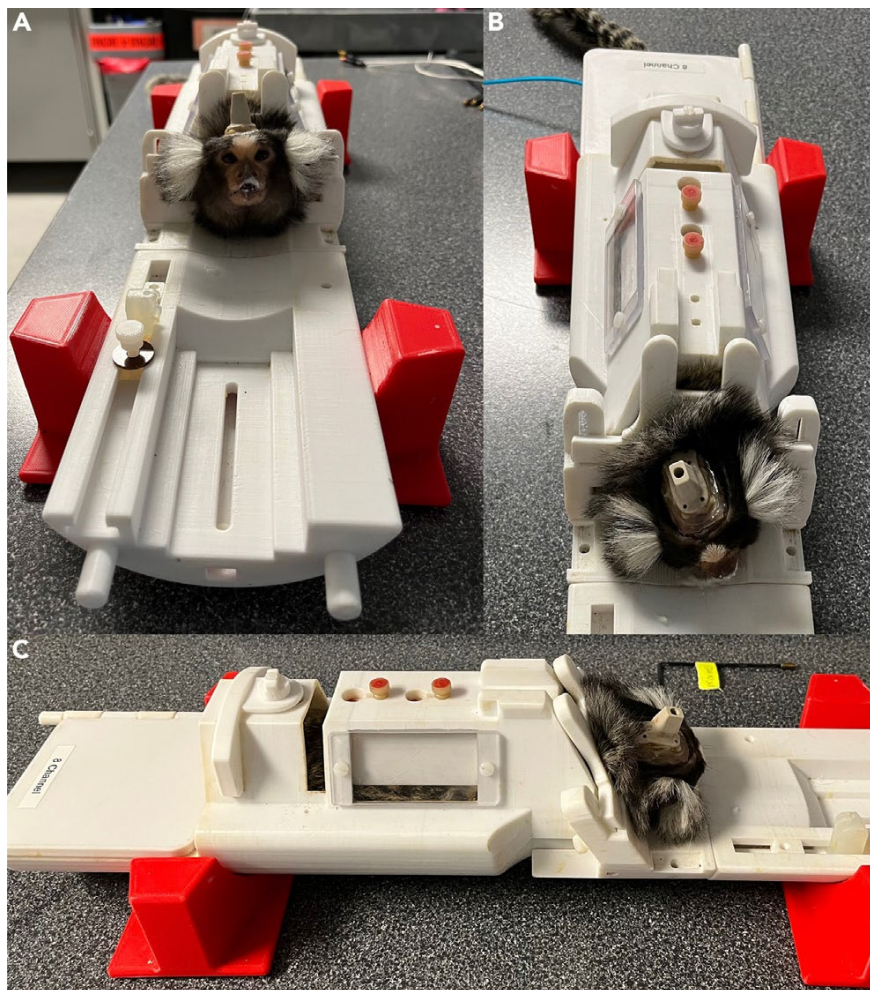

Figure 2. First week of MRI training: Familiarization with the body restraint
1. Place the marmoset inside the body restraint tube without head fixation (**Figure 2**).